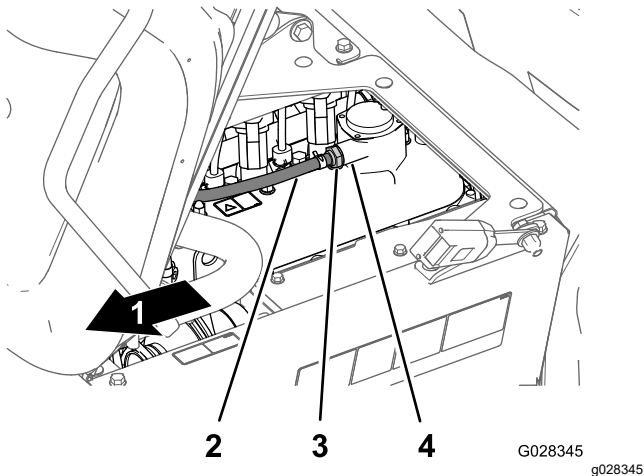

Figure 113
2. Remove the PCV valve from the fitting of the valve cover (Figure 113).
Note: If the internal restrictor of the valve rattles, the PCV valve is serviceable; if the internal restrictor is not free to rattle when shaken, replace the PCV valve (Figure 113).
4. Insert the PCV valve until it is fully seated in the seal for the valve-cover fitting (Figure 113).